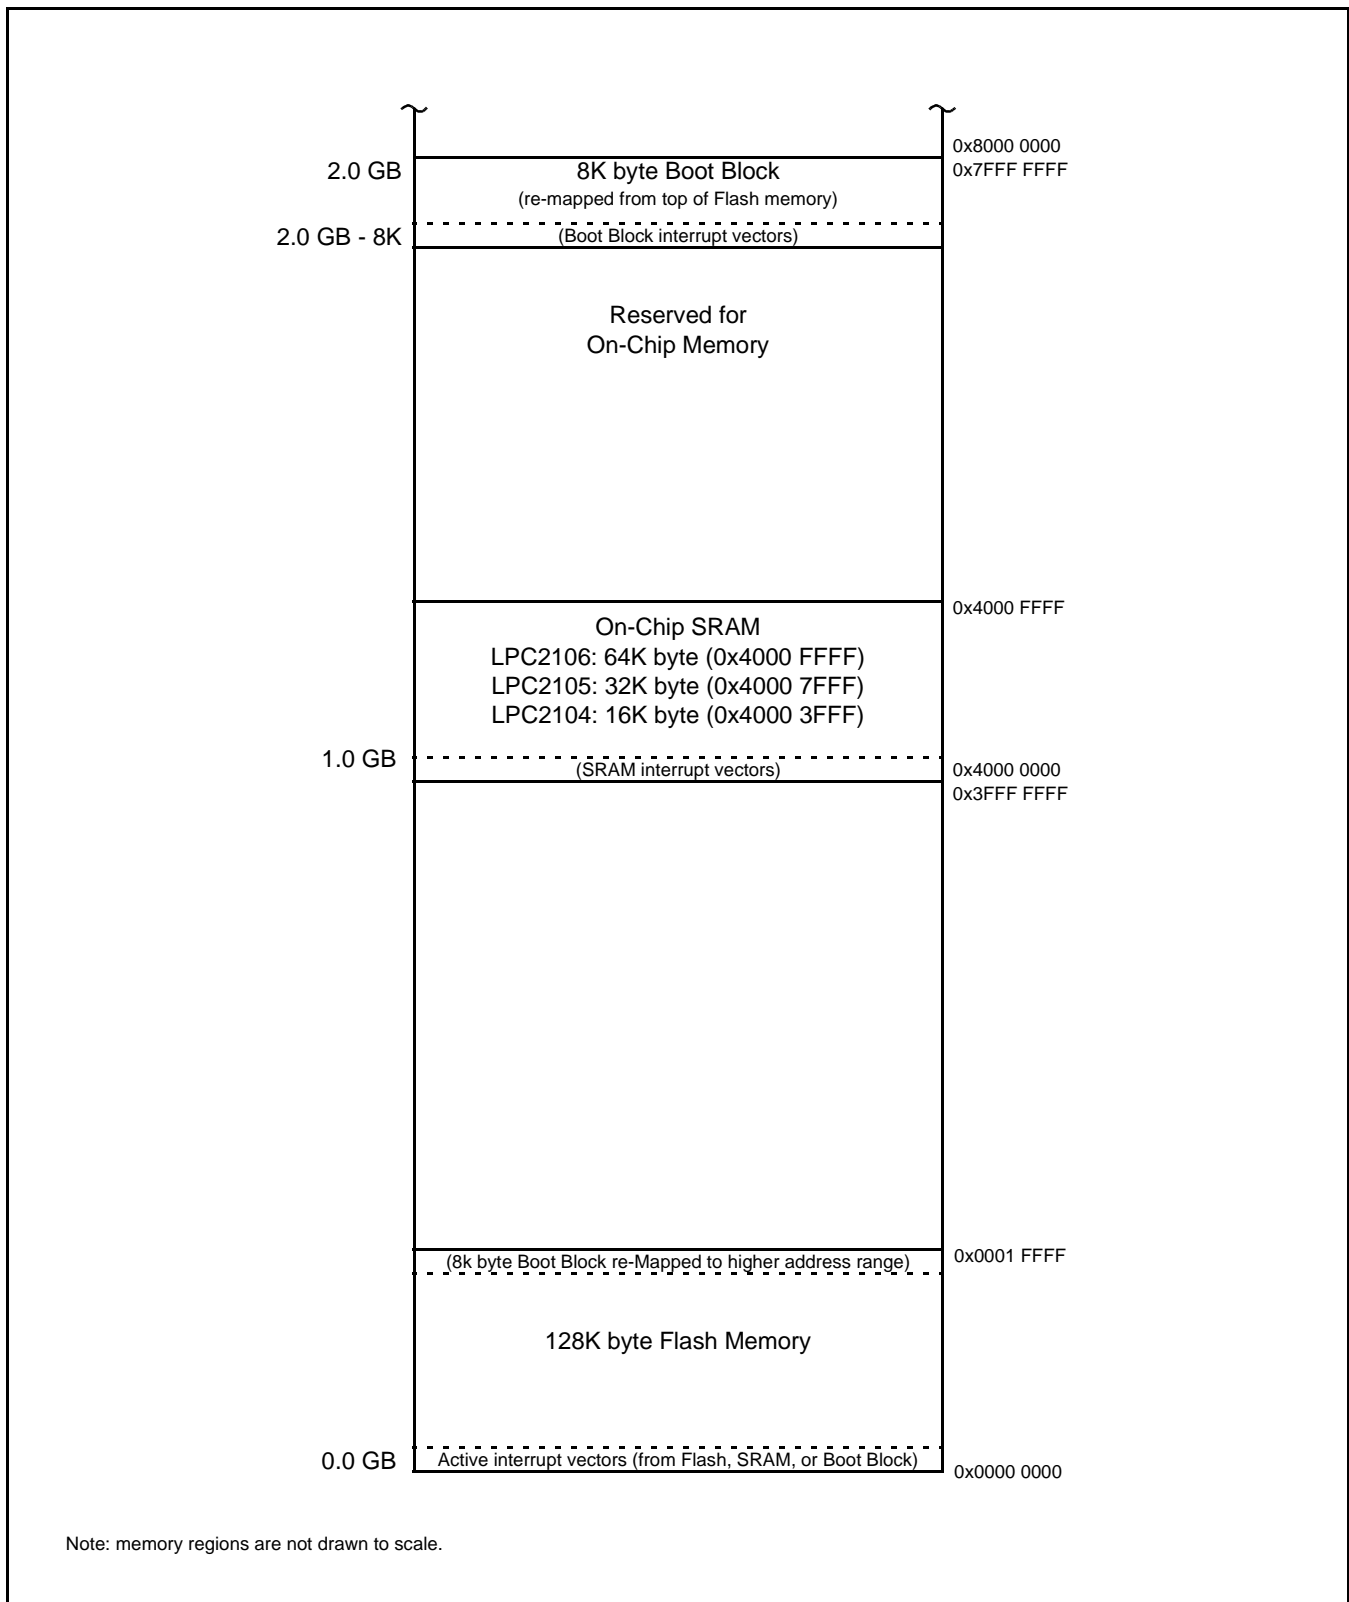

Figure 6: Map of lower memory is showing re-mapped and re-mappable areas.
In order to allow for compatibility with future derivatives, the entire Boot Block is mapped to the top of the on-chip memory space. In this manner, the use of larger or smaller flash modules will not require changing the location of the Boot Block (which would require changing the Boot Loader code itself) or changing the mapping of the Boot Block interrupt vectors. Memory spaces other than the interrupt vectors remain in fixed locations. Figure 6 shows the on-chip memory mapping in the modes defined above.
- Address space between On-Chip Non-Volatile Memory and the Special registers. Labelled "Reserved for On-Chip Memory" in Figure 2 and Figure 6.